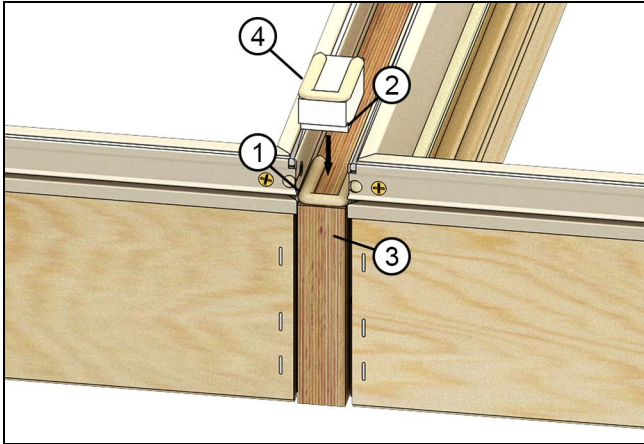

Figure 39
1. Apply a u-shaped bead of sealant over the ends of the space mull block. Press the foam block into place (notched side down) and apply additional beads of sealant on top. See Figure 39.